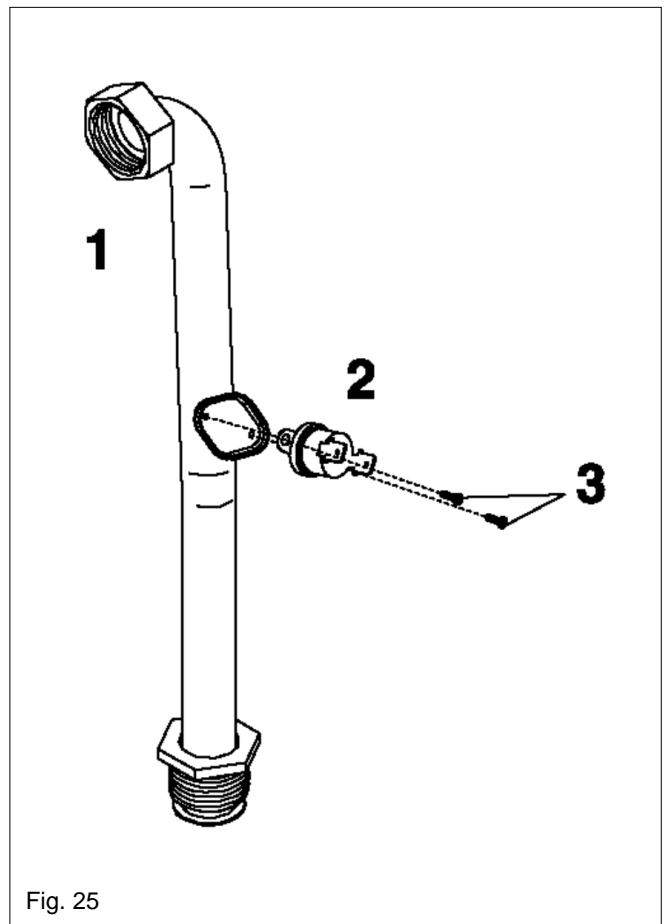

Fig. 25
6.11 HIGH LIMIT THERMOSTAT fig. 25